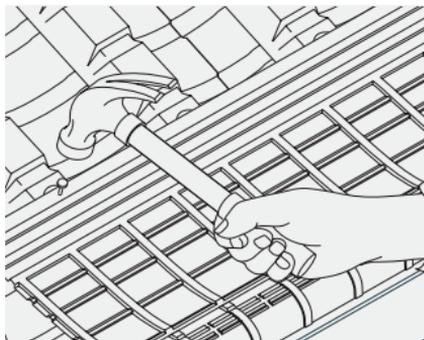

Fig. 39
- 5 Place felt support trays over the over fascia vent strips and nail to rafters with 25mm x 3.35mm aluminium nails (Fig. 39).